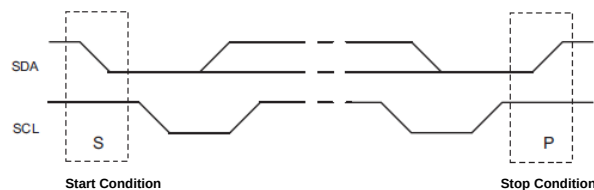

Figure 15: Start and Stop Conditions
Start (S) and stop (P) conditions are signaled by the master device, which signifies the beginning and end of the I2C transfer. The start condition is defined as the SDA signal transitioning from high to low while the SCL is high. The stop condition is defined as the SDA signal transitioning from low to high while the SCL is high (see Figure 15).